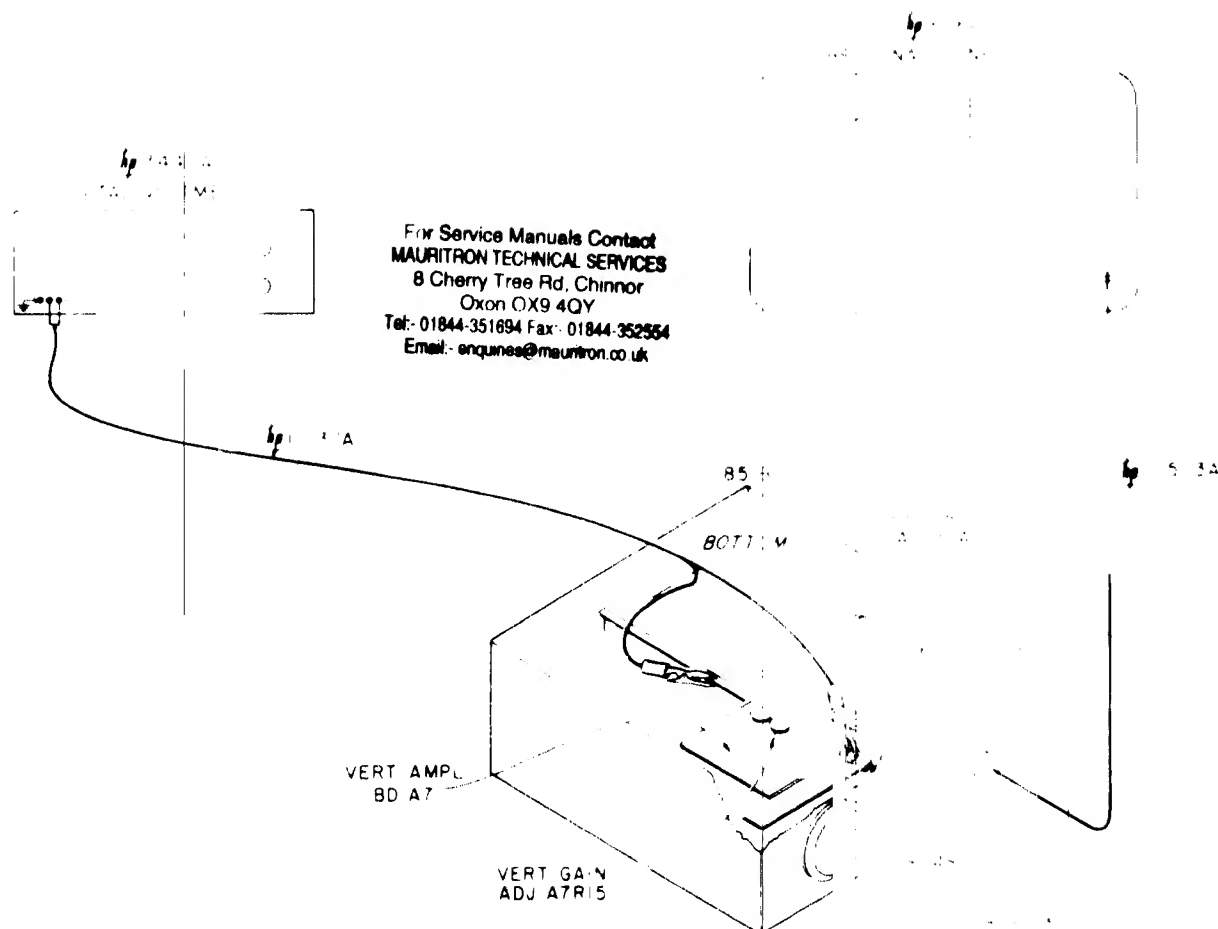
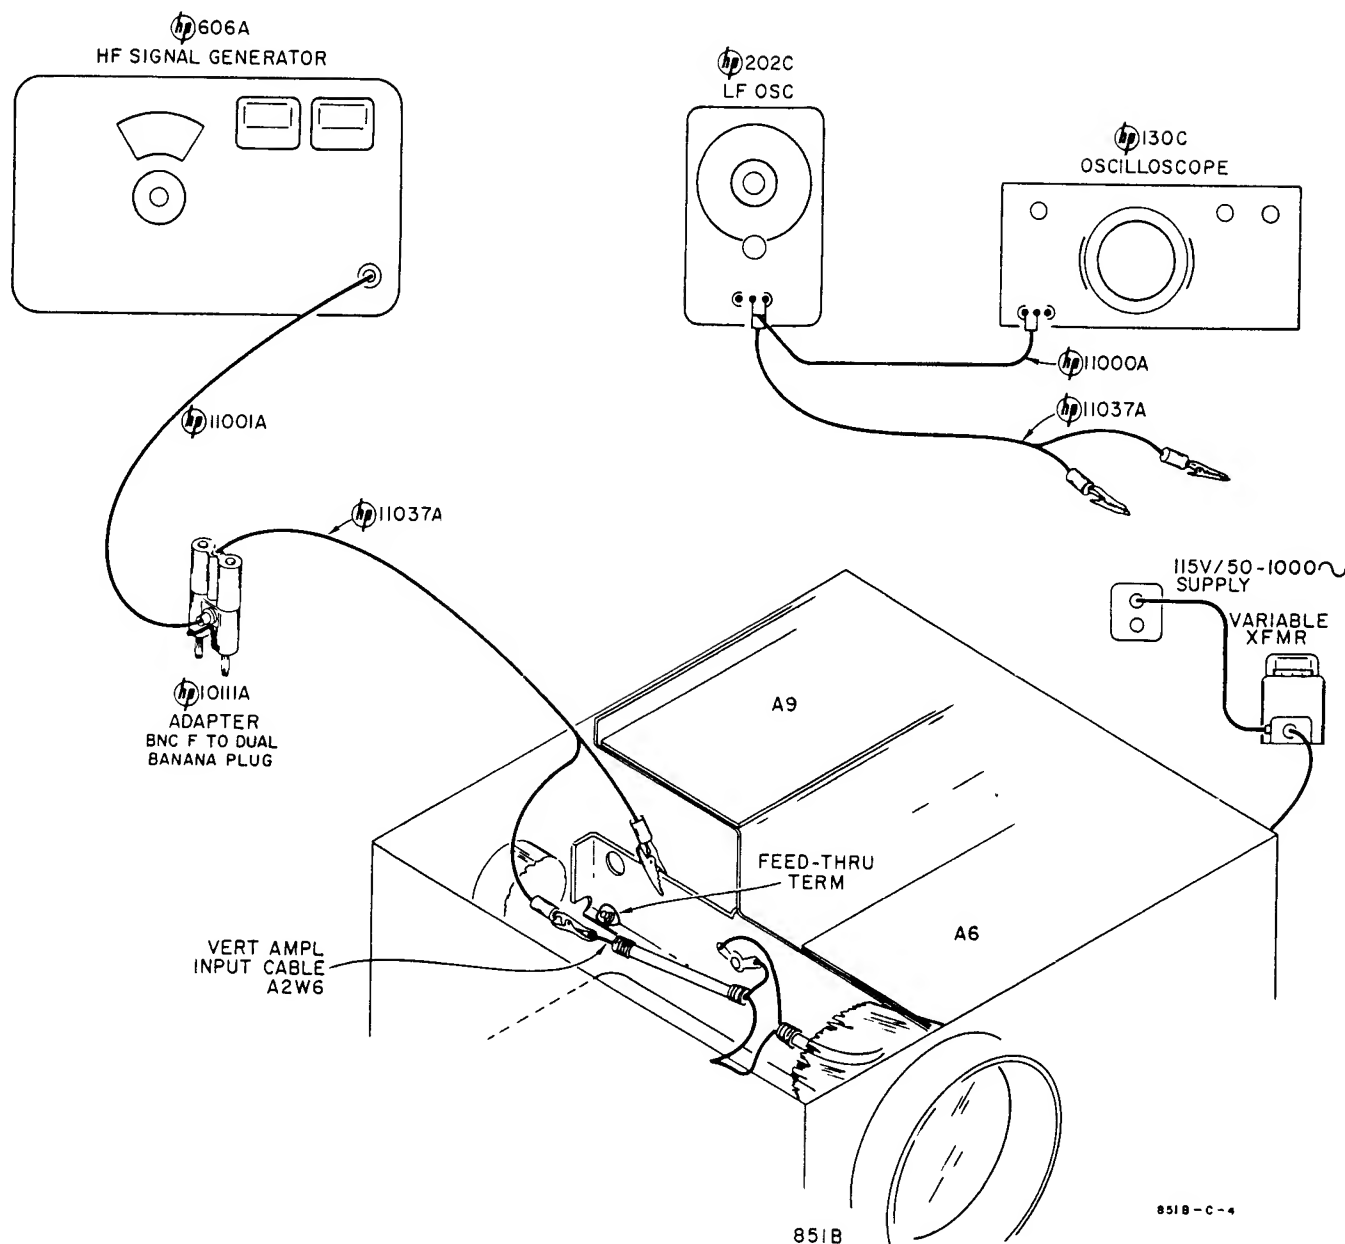

Figure 5-5. Measurement Setup, Calibration of 851 Vertical Amplifier
Figure 5-6. Setup for 851 Video Bandwidth Measurements
b. Measurement setup is shown in Figure 5-5. Connect Voltmeter (digital with automatic range finding capability) at feed-thru terminal (Video Out) at output of RF Circuit Assembly A2. This terminal projects through the casting that encloses Assembly A2, and is identified in Figure 5-6.
- Adjust Vert Gain Adj A7R15 (see Figure 5-5) for 6.0 cm vertical deflection on CRT.
- Disconnect coaxial lead at feed-thru terminal coming out of casting which houses RF Circuit Assembly A2. Connect Signal Generator to this coaxial lead (this lead is Vertical Amplifier Input Cable A2W6 and is identified in Figure 5-6).